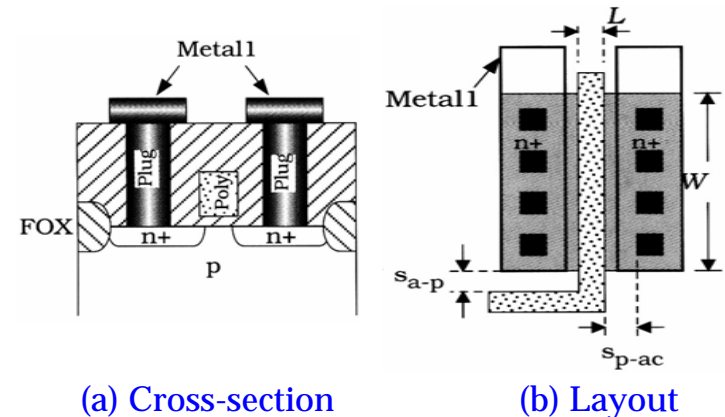

Figure 5.15 Drain and source FET terminals using Metal1
- ❑ Metal1 allows access to the active regions of MOSFETs using the Active Contact oxide cut as Figure 5.15